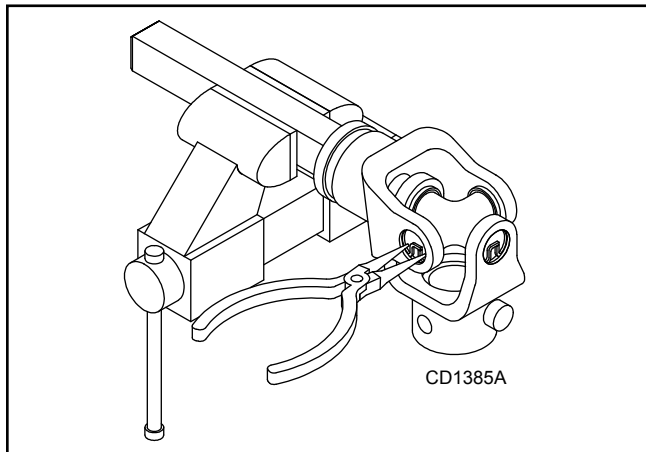

Figure 22.
1. Remove external snap rings from yokes in four locations as shown in Figure 22.